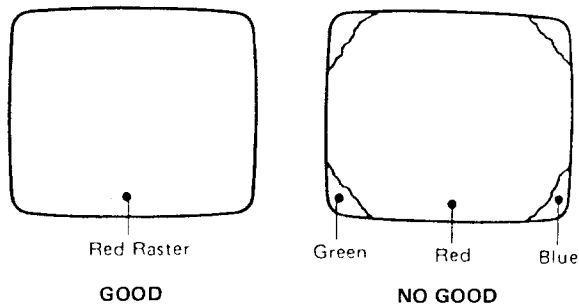

Fig. 4-2-5
- While observing Video Monitor, move deflection coil forward until red color fully occupies the screen and tighten the holding screw. (Fig. 4-2-5)